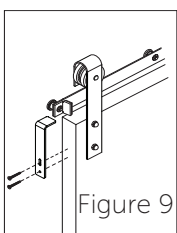

Figure 9
2. Install the bracket to the door edge with 2 Phillips screws (provided) using a drill with a Phillips bit (Figure 9).